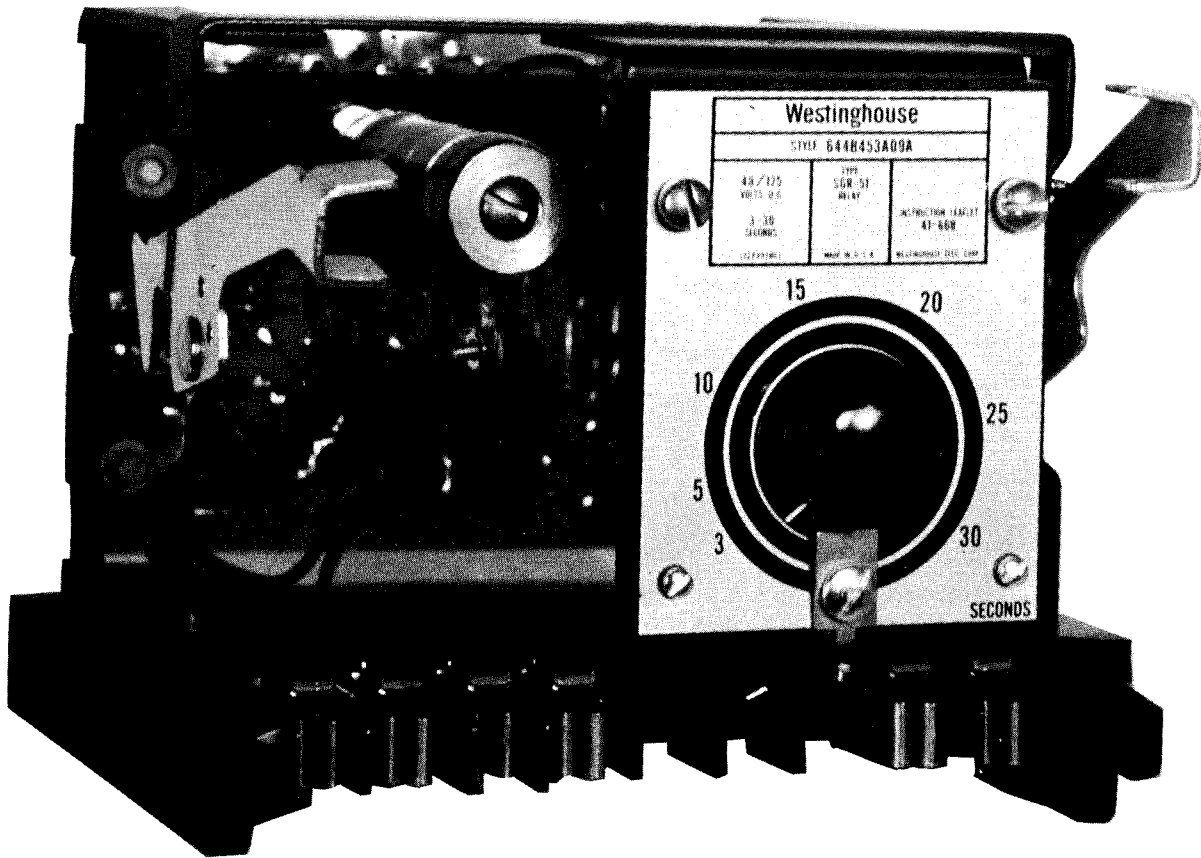

Fig. 1 Type SGR-51 Reclosing Relay (Front View).
The SGR-51 is a completely static relay consisting of (1) a timing circuit, (2) a flip-flop control circuit, (3) an output pulse circuit, and (4) a reclosing circuit. All components except the reclosing circuit Thyristor are mounted on a printed circuit board. The Thyristor is mounted on a heat sink located on a sub base. All components are identified on the internal schematic on Figure 1.
The following description is made with reference to Figure 1.